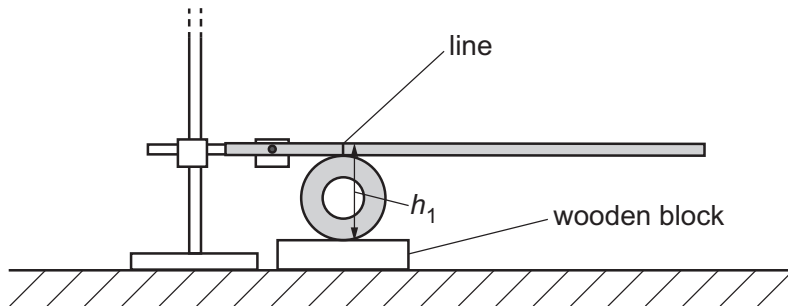

Fig. 2.3
- (b) • Position the ring under the line on the rod and centrally on the wooden block, as shown in Fig. 2.3.
- The vertical distance, next to the ring, of the top of the rod above the block is h_1 , as shown in Fig. 2.3.